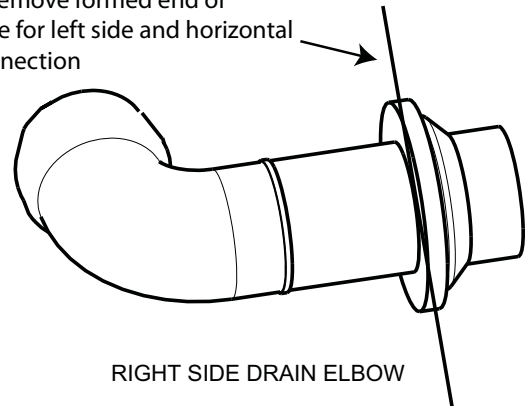

Fig. 15 - Modify Drain Tube
6. Remove the formed grommet on the tube by cutting the tube along the vertical line located about 1 inch (25 mm) away from the formed grommet. (See Fig. 15.)
5. Remove the formed grommet on the tube to create an elbow or straight connector. (See Fig. 15.)